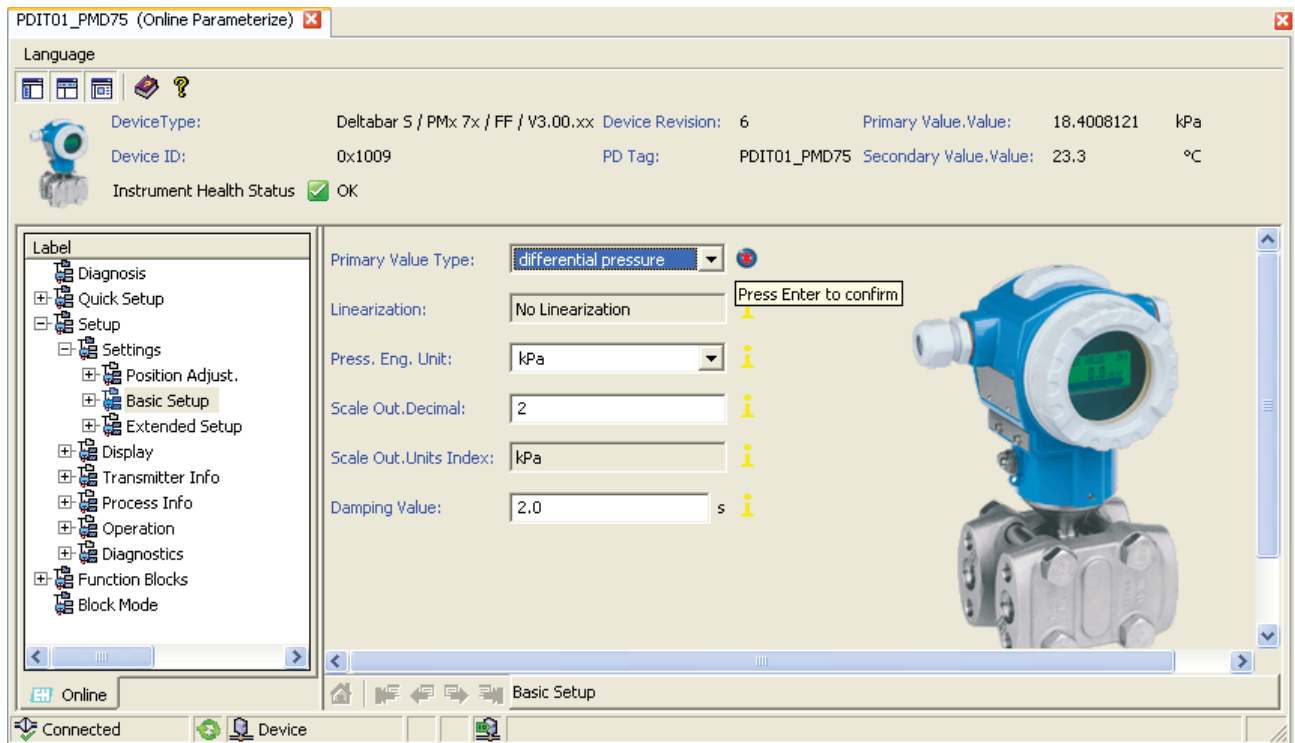

Figure 2-15. BASIC SETUP screen.
23. Go to *Setup ► Settings ► Basic Setup* as shown in Figure 2-15 and make the following choices: